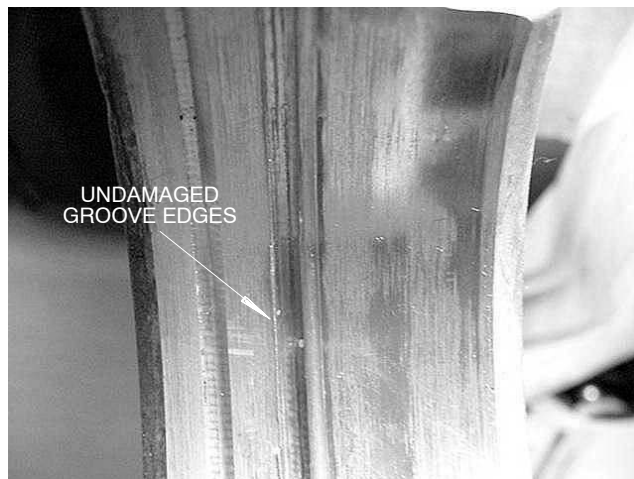

Figure 60
8. Inspect center plate for cracks and damage. Replace center plate if the retaining ring groove has more than 15% of its edges damaged due to nicks, rounding, cracks, or dents (Fig. 60 and 61).